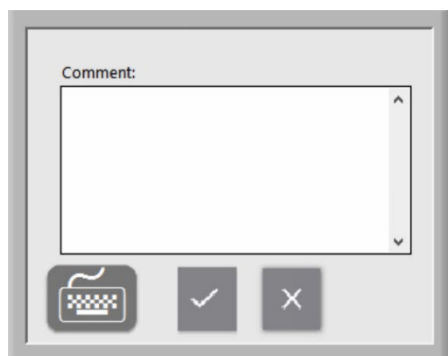

Figure 50: Comment window
- If desired, a comment can be added to the Assay Results.pdf by tapping on the **Add Comment** button. This will open a window where the user can add a comment (Figure 50).